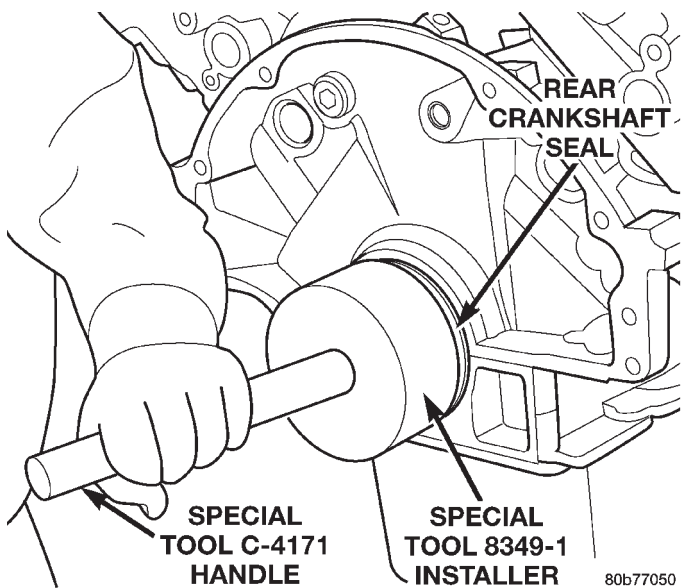

Fig. 114 Crankshaft Rear Oil Seal Installation
(2) Using Special Tools 8349 Crankshaft Rear Oil Seal Installer and C-4171 Driver Handle (Fig. 114), with a hammer, tap the seal into place. Continue to tap on the driver handle until the seal installer seats against the cylinder block crankshaft bore.
(3) Install the flexplate.
(4) If removed, install the transmission.